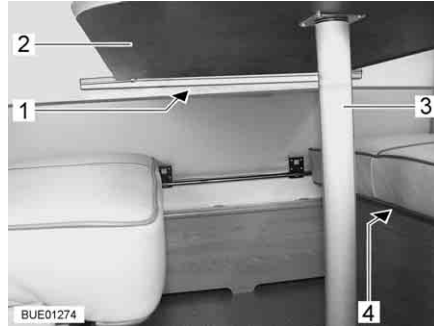
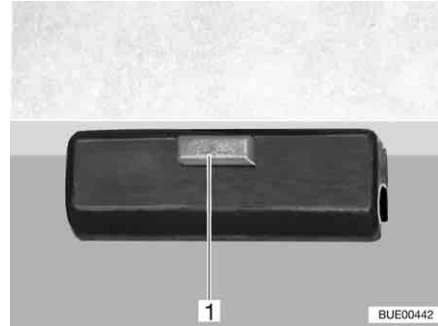

Fig. 90 Suspension table with changeable table leg
Fig. 91 Lock
- Slightly raise the front of the table-top (Fig. 90,2).
- Remove table leg (Fig. 90,3) and lay it aside.
- Press the release knob (Fig. 91,1) on the lock (Fig. 90,1).
- Place the table-top in the holders (Fig. 90,4) on the bench seats.